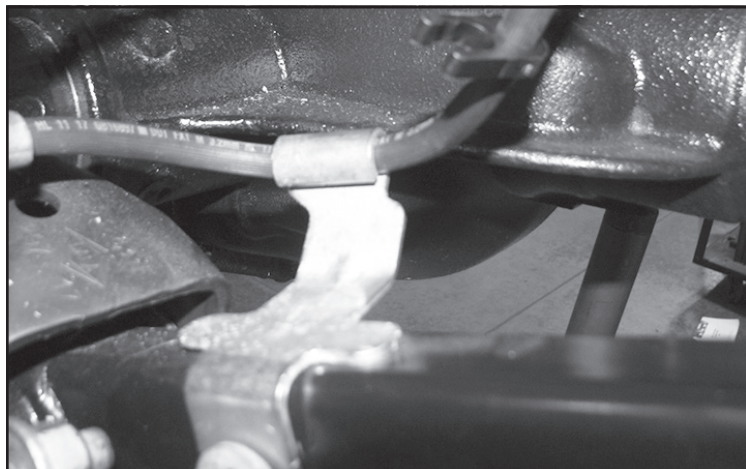

FIGURE 23 - STEP 17
17. Reconnect all brake line brackets with the factory hardware and torque 29 ft-lbs. **NOTE: Bend the lower link arm brake line bracket upward an inch to give the line some relief at full extension. SEE FIGURE 23**